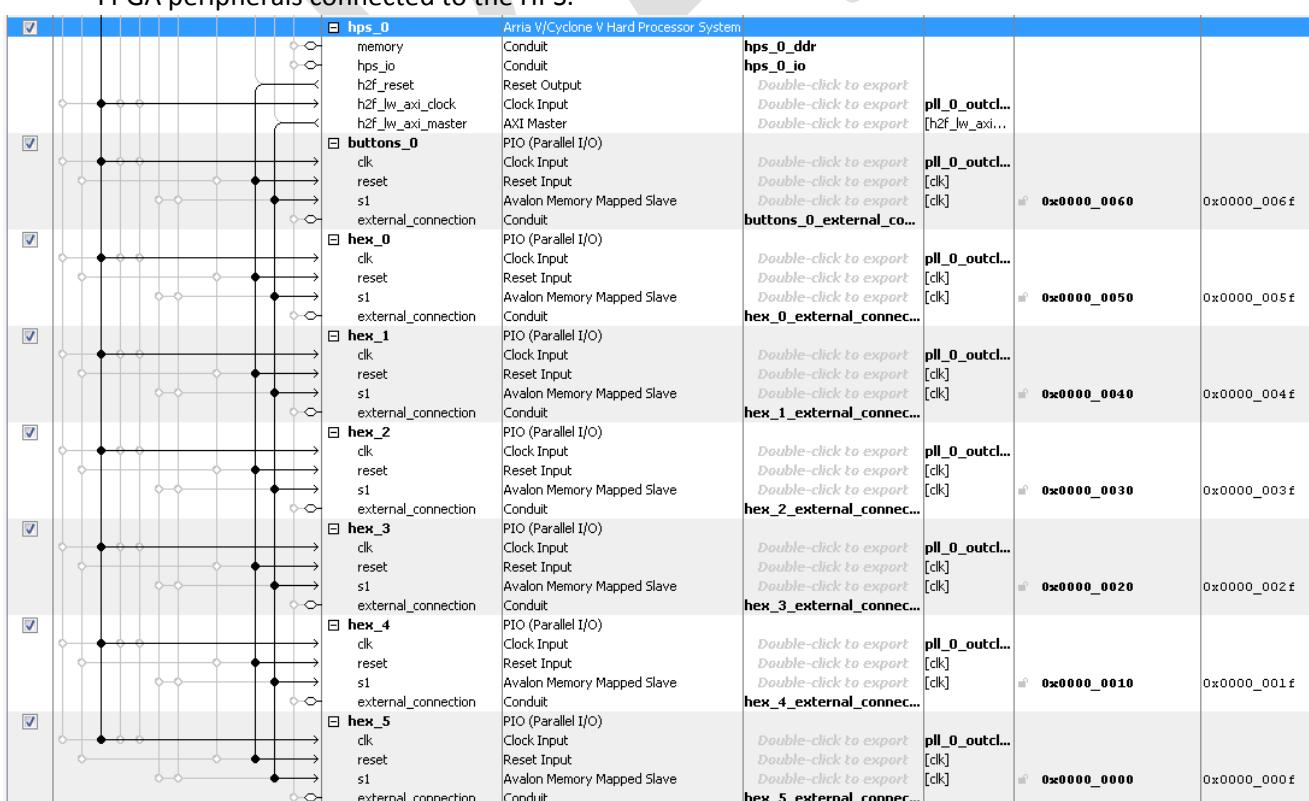

Figure 8-10. Adding Buttons and 7-segment Displays to the Lightweight HPS-to-FPGA Bridge
25. Connect the system as shown in Figure 8-10 below (we don't show the full system to make figures hold on one page). Notice that we use “hps\_0.h2f\_reset” as the reset signal for the components connected to the HPS. This is a design choice so we can separately reset FPGA-only peripherals, and FPGA peripherals connected to the HPS.